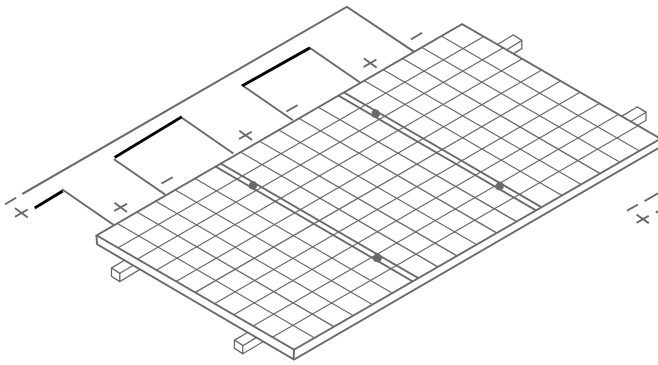

Figure 8 Connection in Series
4. Secure the module in each fixing location with an M6 bolt, two flat washers, a spring washer and nut as shown in Figure 8, torque: 9~12 N.m.
- It is not allowed to use the Modules in different models in the same solar photovoltaic system. When the Modules are connected in series, the voltage of every string shall not be higher than the maximum voltage of the system (as shown in Figure 8). Reference equation of the maximum number of the Modules in serial connection: maximum system voltage of the module/ (1.25* open-circuit voltage).